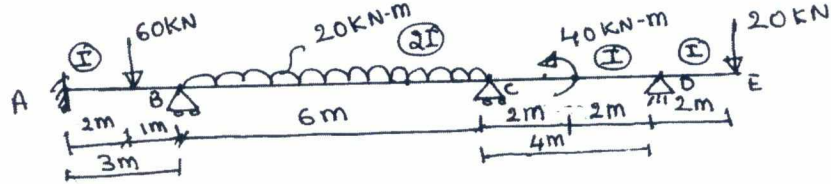

Fig. Q5
- 5 Analyse the beam loaded as shown in Fig. Q5 using Kani's method. Draw BMD. (20 Marks)